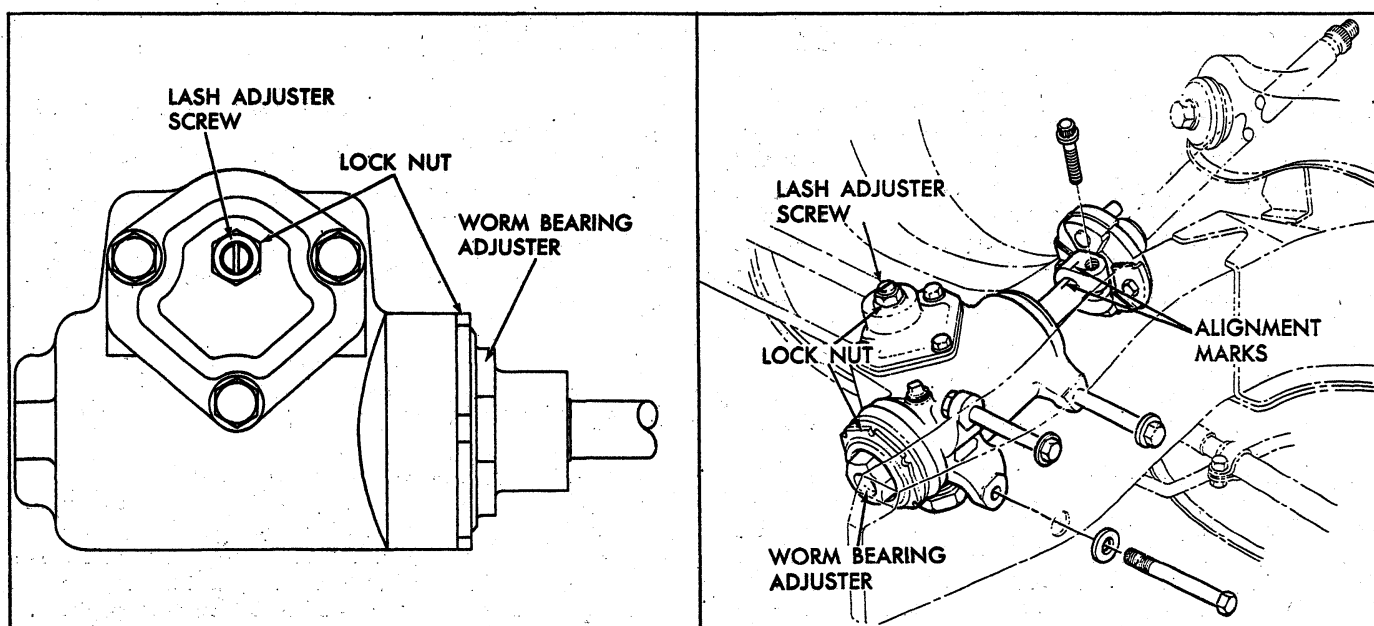

Fig. 3—Steering Gear Adjustment Points
2. Loosen the pitman shaft lash adjuster screw locknut and turn the adjuster screw a few turns in a counter-clockwise direction (fig. 3). This removes the load
5. To adjust worm bearings, loosen worm bearing adjuster locknut and turn worm bearing adjuster shown in Figure 3 until there is no perceptible end play in worm. Check pull at steering wheel, readjusting if necessary to obtain proper pull. Tighten locknut and recheck pull. If the gear feels "lumpy" after adjustment of worm bearings, there is probably damage in the bearings due to severe impact or to improper adjustment and the gear must be disassembled for replacement of damaged parts.